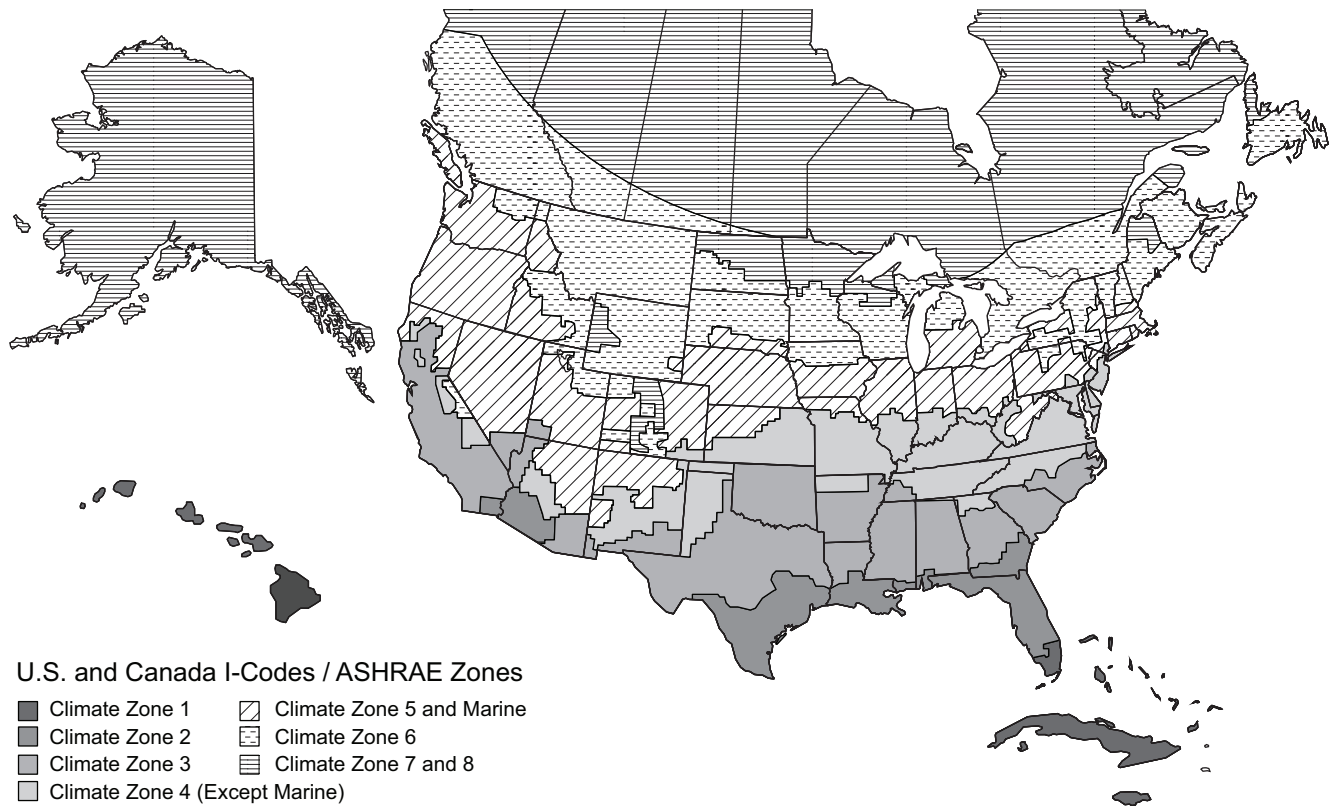

Fig. 82 — U.S. and Canada Climate Zones
- a. See Fig. 82 for map of U.S. and Canada climate zones.